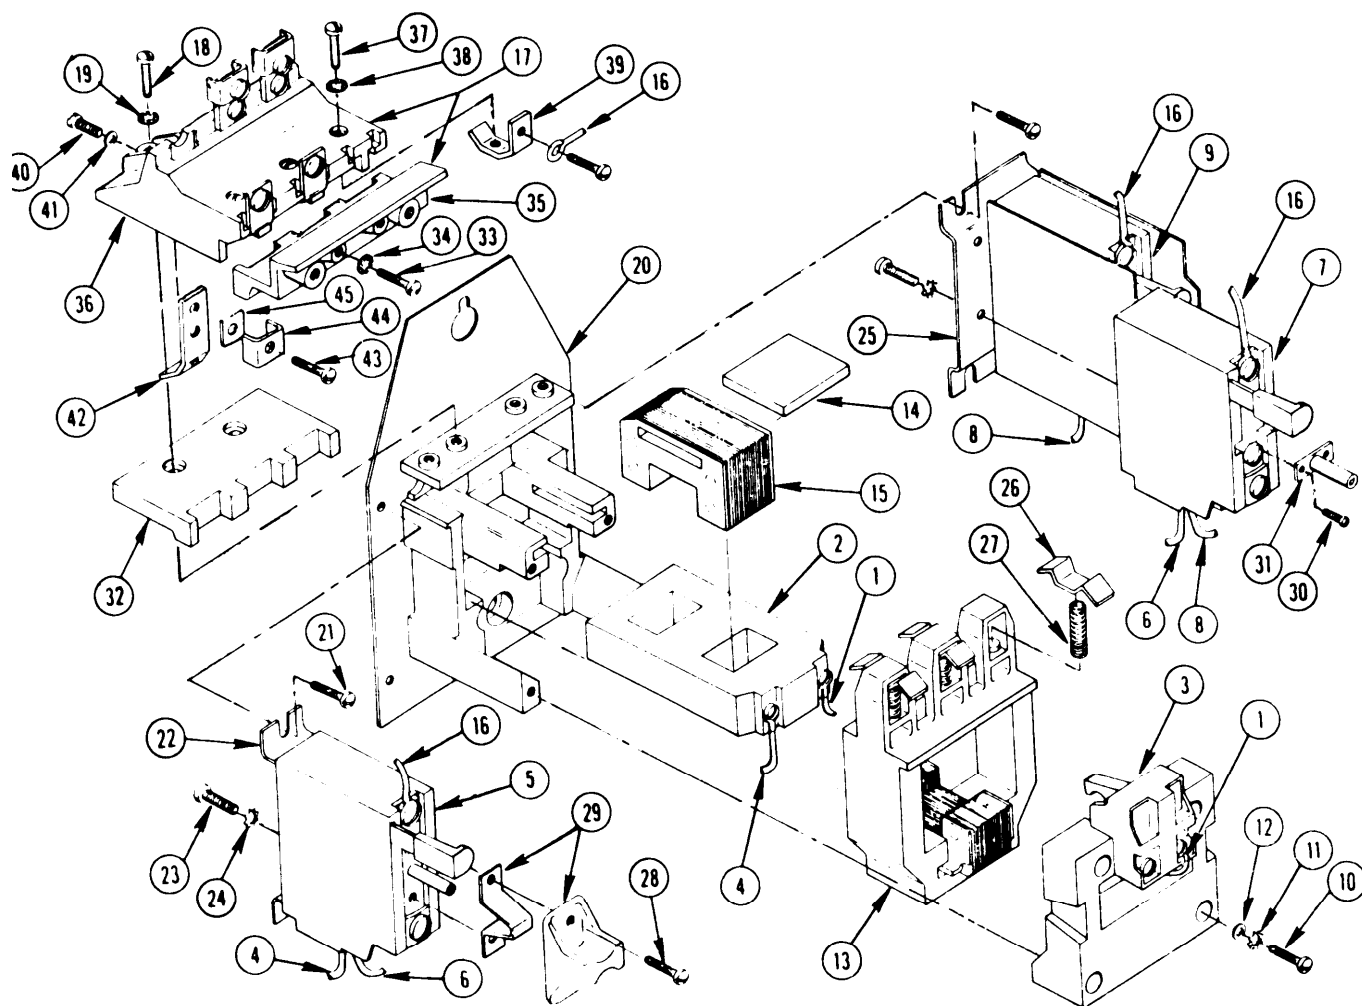

Figure 3-13. Motor Starter, 20 HP, 10 HP, and 2 HP
c. Disassemble. (Figure 3-13) (Refer to Schematic, Figure 1-12)
- (2) Replace damaged or unserviceable overload relays.
- (3) Repair, straighten, rework, or replace mounting brackets with minor dents, bends, or breaks.
g. Reassembly. (Figure 3-13)
- (1) Position three lower contacts (42) in stationary contact block (36) and install screw (40) and lockwasher (41) through lower contact (42) and stationary contact block (36).
- (2) Install screw (43), clamp (44), and spacer (45) into three lower contacts (42).
- (3) Position three upper contacts (39) in stationary contact block (36), and install screw (37) and lockwasher (38) through contact (39) and stationary contact block (36).
(4) Position contact cover (35) on stationary contact block (36) and install two screws (33) and lockwashers (34).
(5) Position spindle (31) in overload relays (7) and (9) and install with two screws (30).
(6) Position heater element (29) on overload relays (5) and install with two screws (28).
(7) Install movable contacts (26) and springs (27) into movable contact assembly (13).